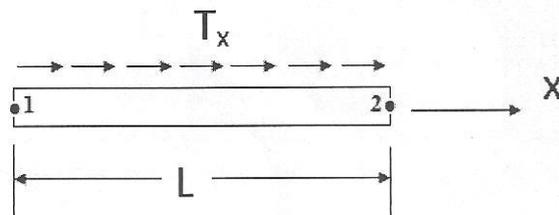

Figure 4A
- Q. 4 A Derive elemental stiffness matrix and force vector for two noded (linear) bar element using Principle of Minimum Potential Energy (PMPE) Method. The bar element is oriented in x -direction as shown in Figure 4a. Use local coordinate (x) system for the derivation. Assume that only surface tractions (T_x) are acting on bar element. Ignore concentrated forces and the body forces. 10